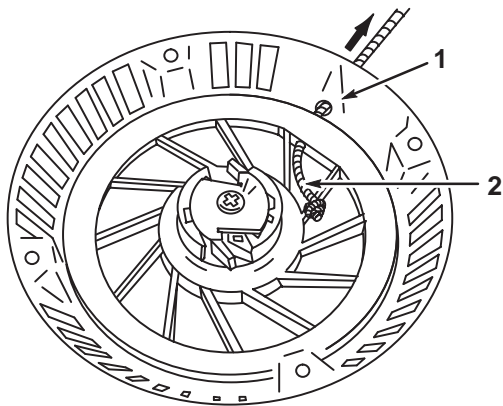

Fig. 81 – Inserting Rope
4. Thread end of rope through starter housing eyelet and pull rope until knot is in rope cavity, Fig. 81.